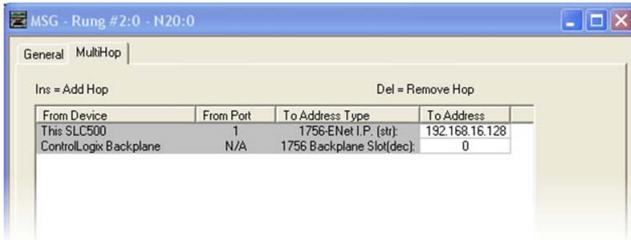

Figure 104: MSG Configuration, "MultiHop" Tab
- e) Under the “MultiHop” tab settings, set the “To Address” in the first row to the inverter’s IP address, and the “To Address” in the second row to 0. Refer to Figure 104.